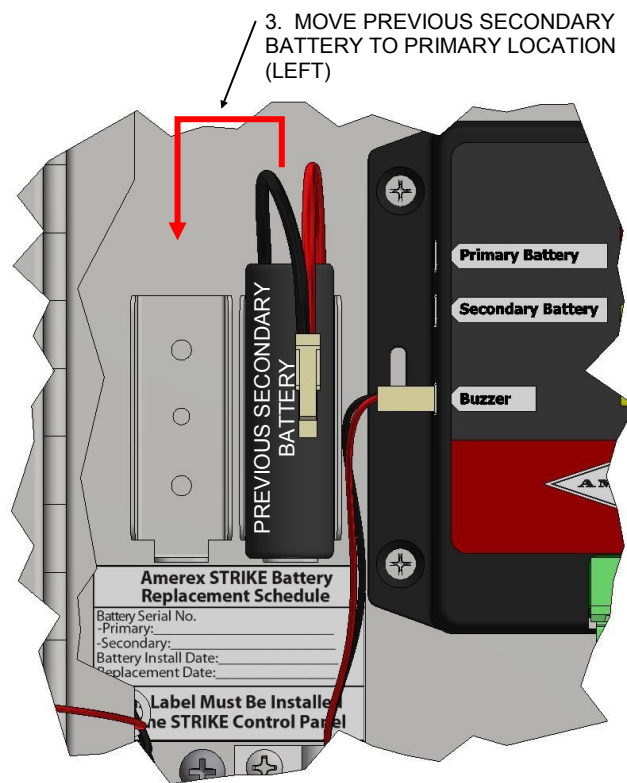

Figure 5.5b
3. Move the 'Secondary' battery to the 'Primary' bracket location on left (See Figure 5.5b).